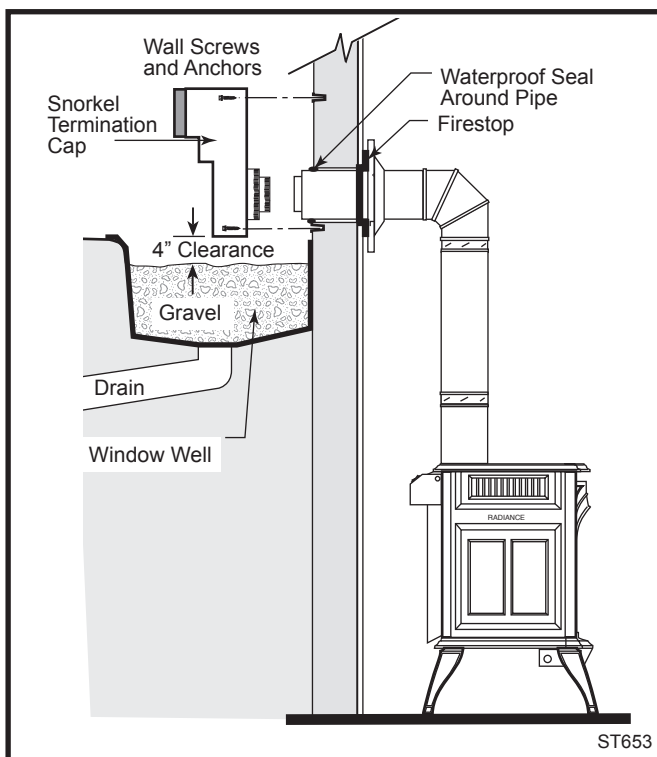

Fig. 31 Snorkel kit installation.
Install Snorkel Kit #7FSDVSKS when it is not possible to meet the required vent termination clearances of 12" (305mm) above grade level. The snorkel kit will allow installation depth of down to 7" (178mm) below grade level. The seven inches is measured from the center of the horizontal vent pipe as it penetrates the wall. **If the venting system is installed below grade, a window well must be installed with adequate and proper drainage.** (Fig. 31)
2. Remove soil to a depth of approximately 16" (400mm) below the base of the snorkel. Install a window well (not supplied). Refill the hole with 12" (305mm) of coarse gravel and maintain a clearance of at least 4" (100mm) below the snorkel. (Fig. 31)